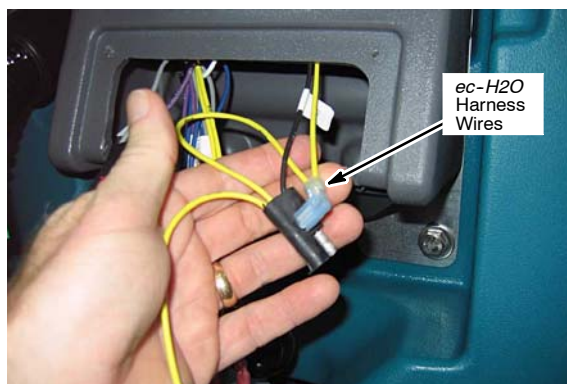

Fig. 22
6. Route the remaining console wires from the *ec-H2O* wire harness to the lower control panel (Figure 22).